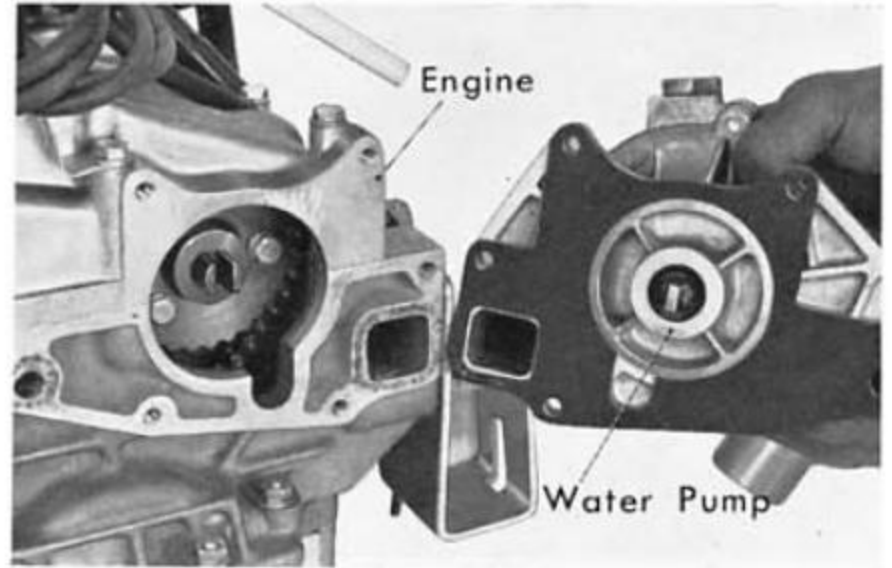

Fig. 4B-1
1. After removing the radiator from the frame, remove the water pump attaching bolts and separate the pump assembly from the engine (Fig. 4B-1).
2. Remove the bolts and dismantle the pump cover and gasket from the pump body. Remove drain plug and gasket from the pump cover (Fig. 4B-2).